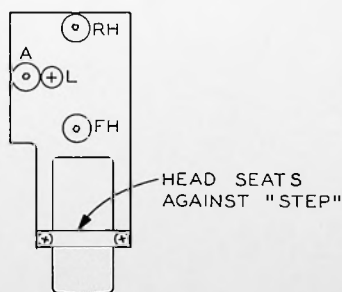

FIGURE 4-7
- c. Align the rear edge of the head case so that it seats properly in the head mount block. (See Figure 4-7.)